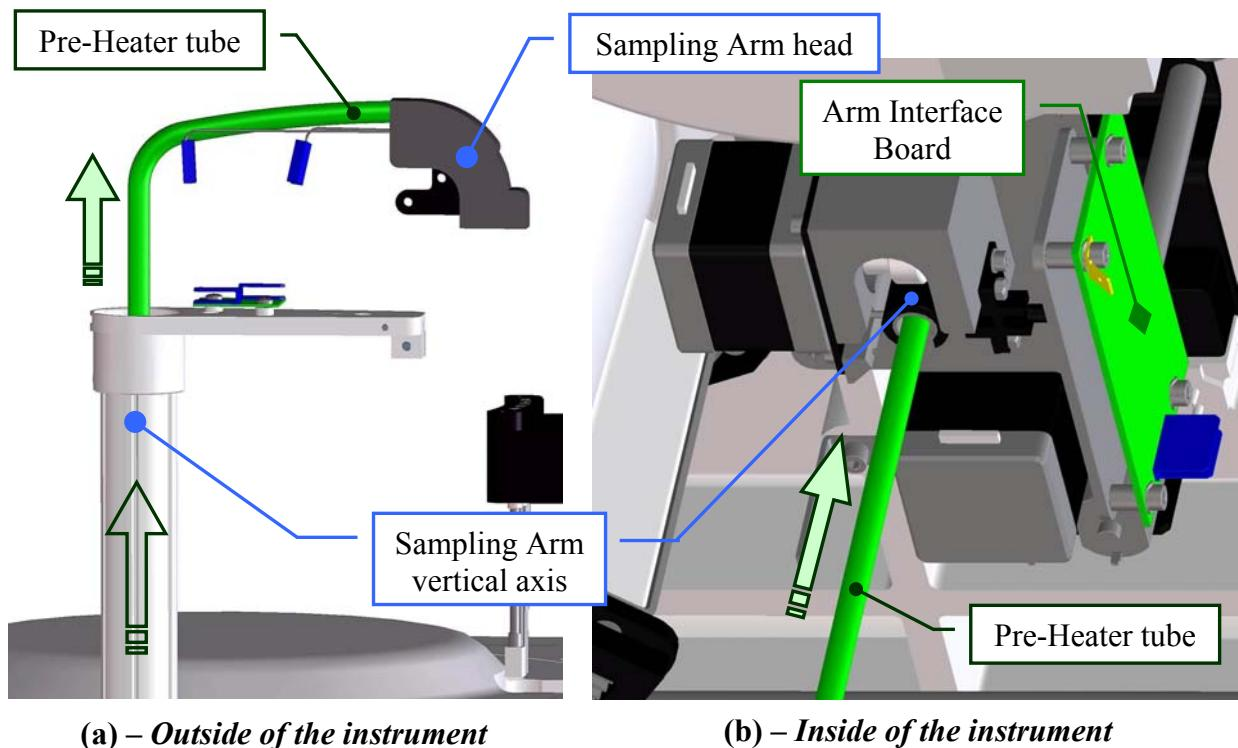

Fig. 48 [(a), (b)] – Extraction of the Pre-Heater from the Sampling Arm
11. Pull the Pre-Heater (tube and wires) up along the interior side of the Sampling Arm vertical axis (**Fig. 48(a)** and **Fig. 48(b)**) until it is completely outside of the Sampling Arm.